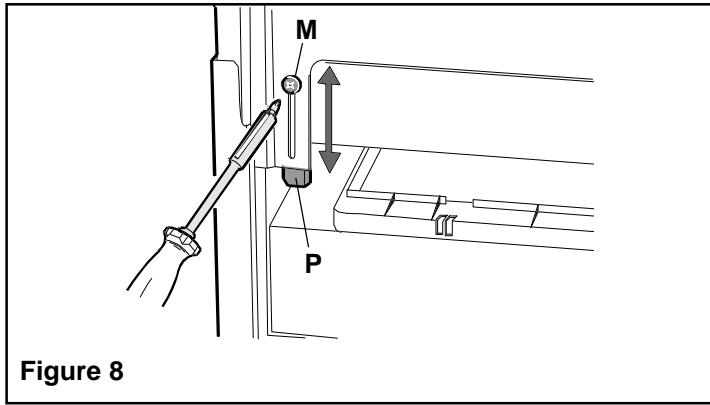

Figure 8
- Remove j-box cover as shown in Figure 8.
- Connect black wire from service panel to black or red in junction box, white to white and green to green-yellow. See Figure 8.
For box adjustment, loosen screws **M**, slide the square plates **P** as necessary, and tighten screws **M** (Figure 8).